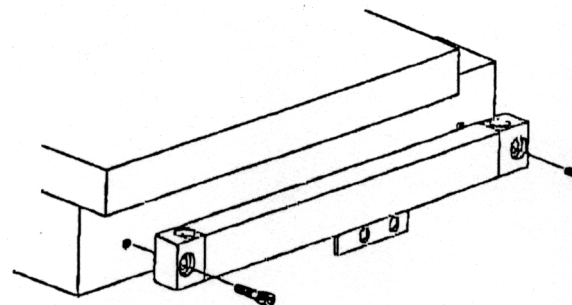

Figure 9. Scale Installation
3. Attach the scale to the machine tool. See Figure 9. Use the 1/4 - 20 NC x 7/8 in. socket head cap screws provided.